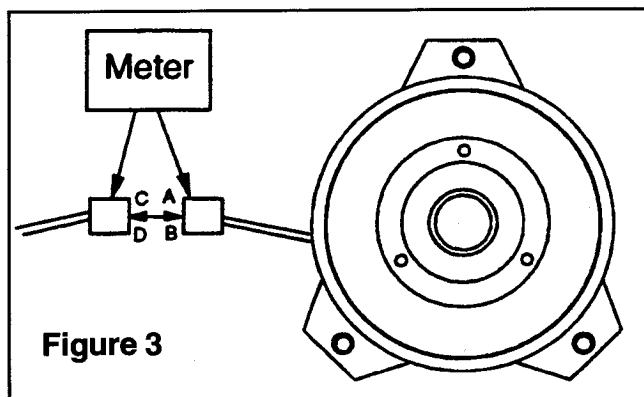

Figure 3
4. Connect one meter lead wire to one wire in clutch connector at A (see figure 3).
5. Connect the other meter lead wire to the corresponding wire in the mating connector at C (see figure 3).
6. Connect a short wire from D to B in both connectors (see figure 3).